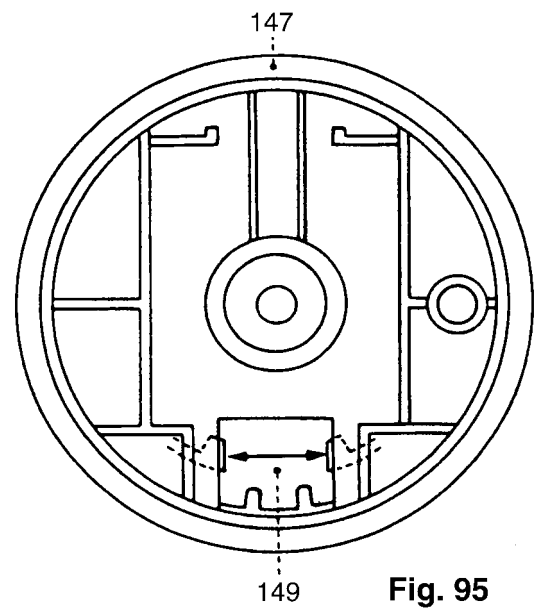

Fig. 95
- Turn handwheel 147 and clutch disk 148 until the hole in the handwheel and the cutout in the clutch disk are facing downwards (fig. 95).